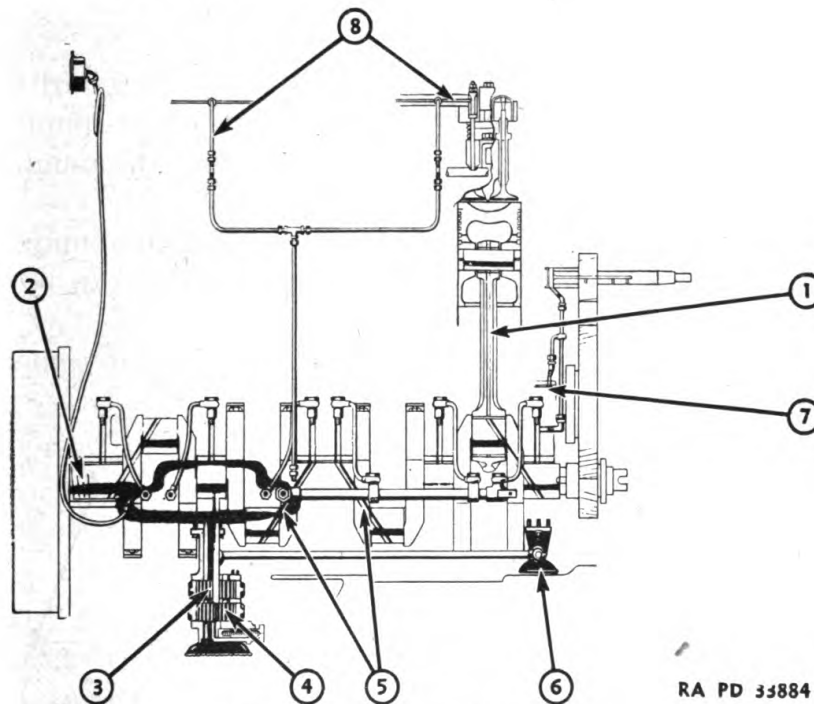

FIGURE 44.—Lubricating system.
40. General.—*a.* The oil pump gears (4) (fig. 44) supply oil under pressure through drilled passages (5) in the crankshaft to the connecting rods (1), valve rockers (8), and timing gears (7). Gears (3) bring oil from the front of the engine (6). Spiral grooves (2) on the crankshaft are for carrying oil away from the clutch.
b. One of the most important items contributing to the long life of an engine is that of proper lubrication. The lubricating system (fig. 44) has been designed to meet all working conditions, but it should be inspected occasionally to see that everything is functioning properly.